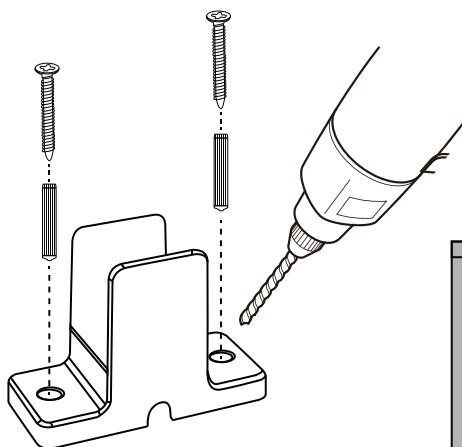

Fig 2
3. Installing the expansion tube into the 2 holes, fix them with screw M4*32 Fig 2.